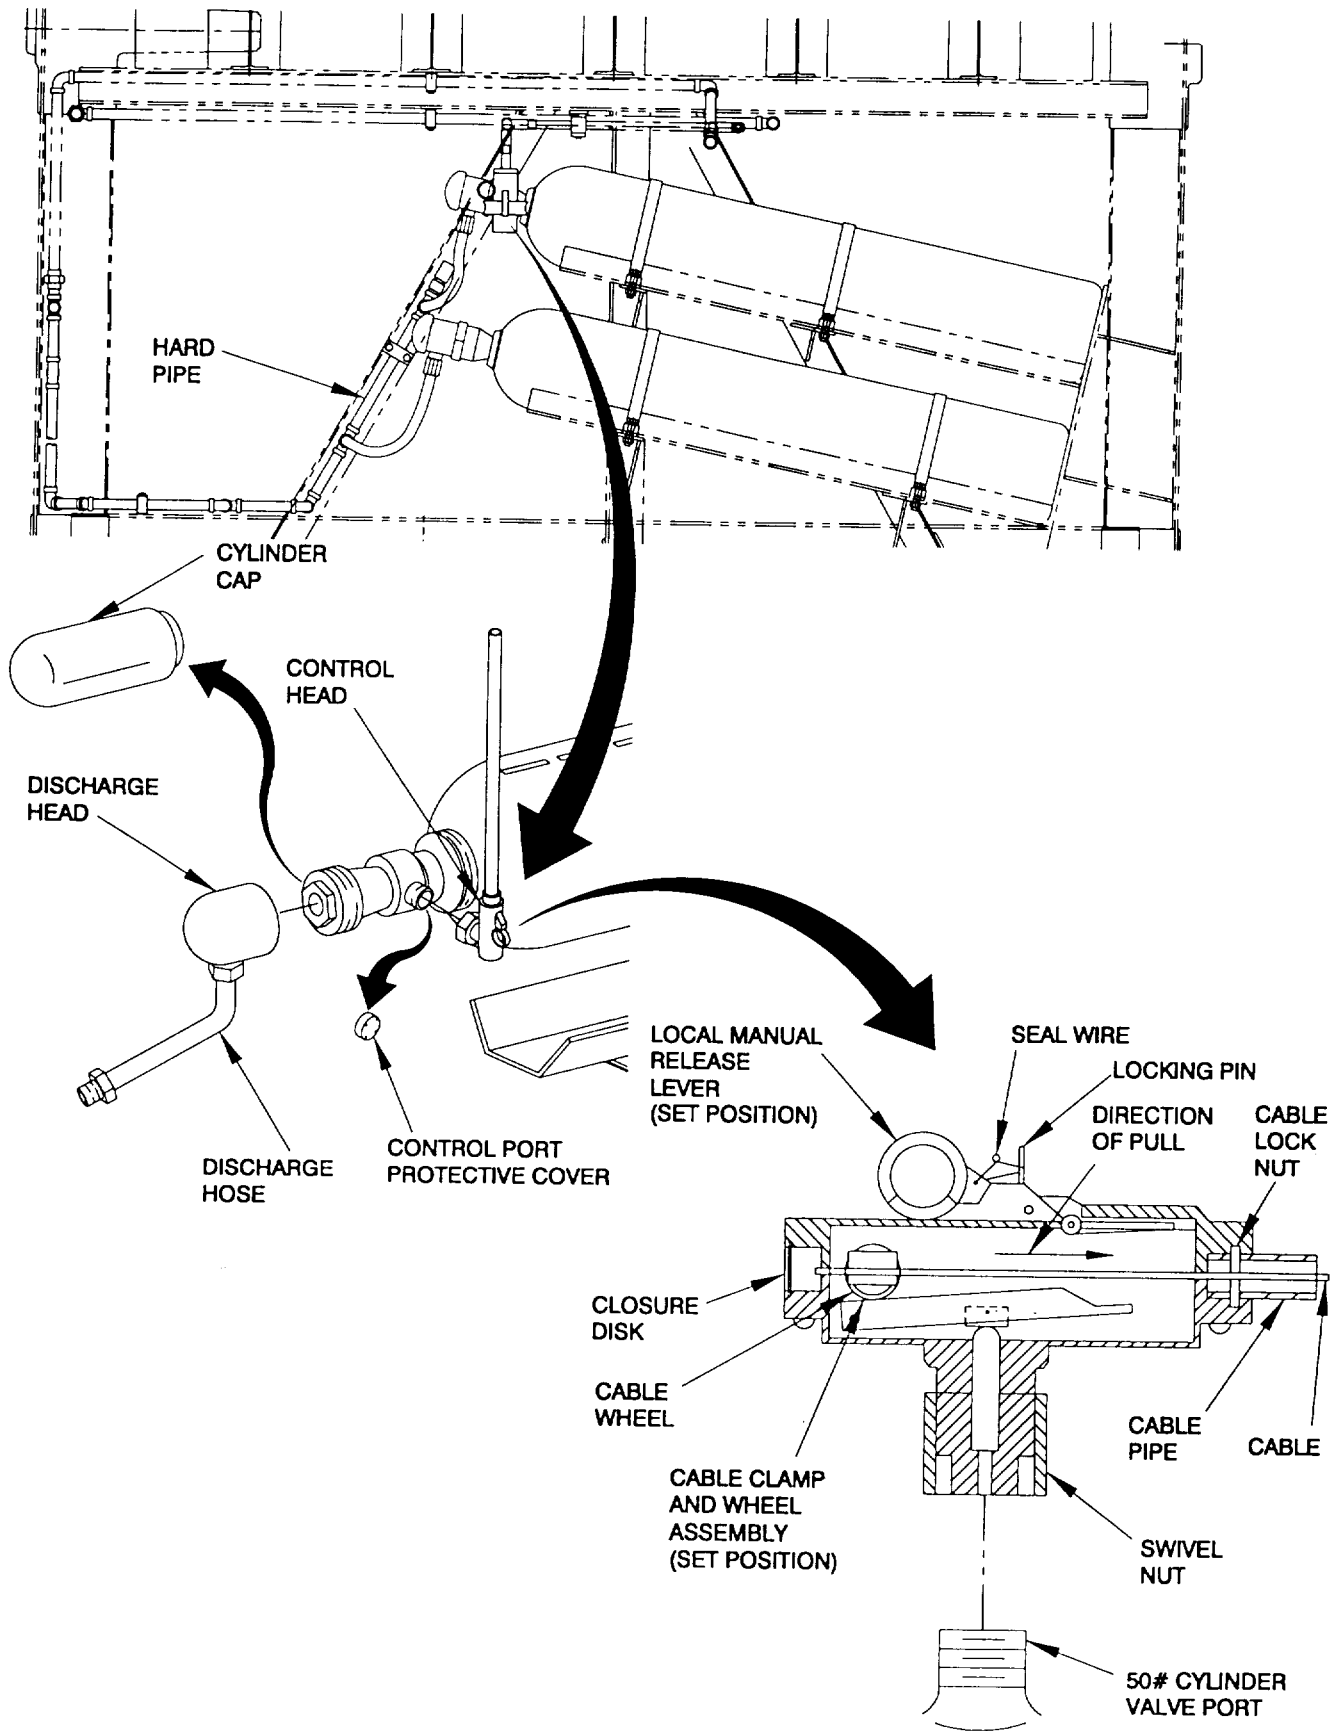

Figure 2-51. Fire Suppression System Installation.
- g. Connect discharge heads and cable control head to the CO2 cylinders (refer to figure 2-51).